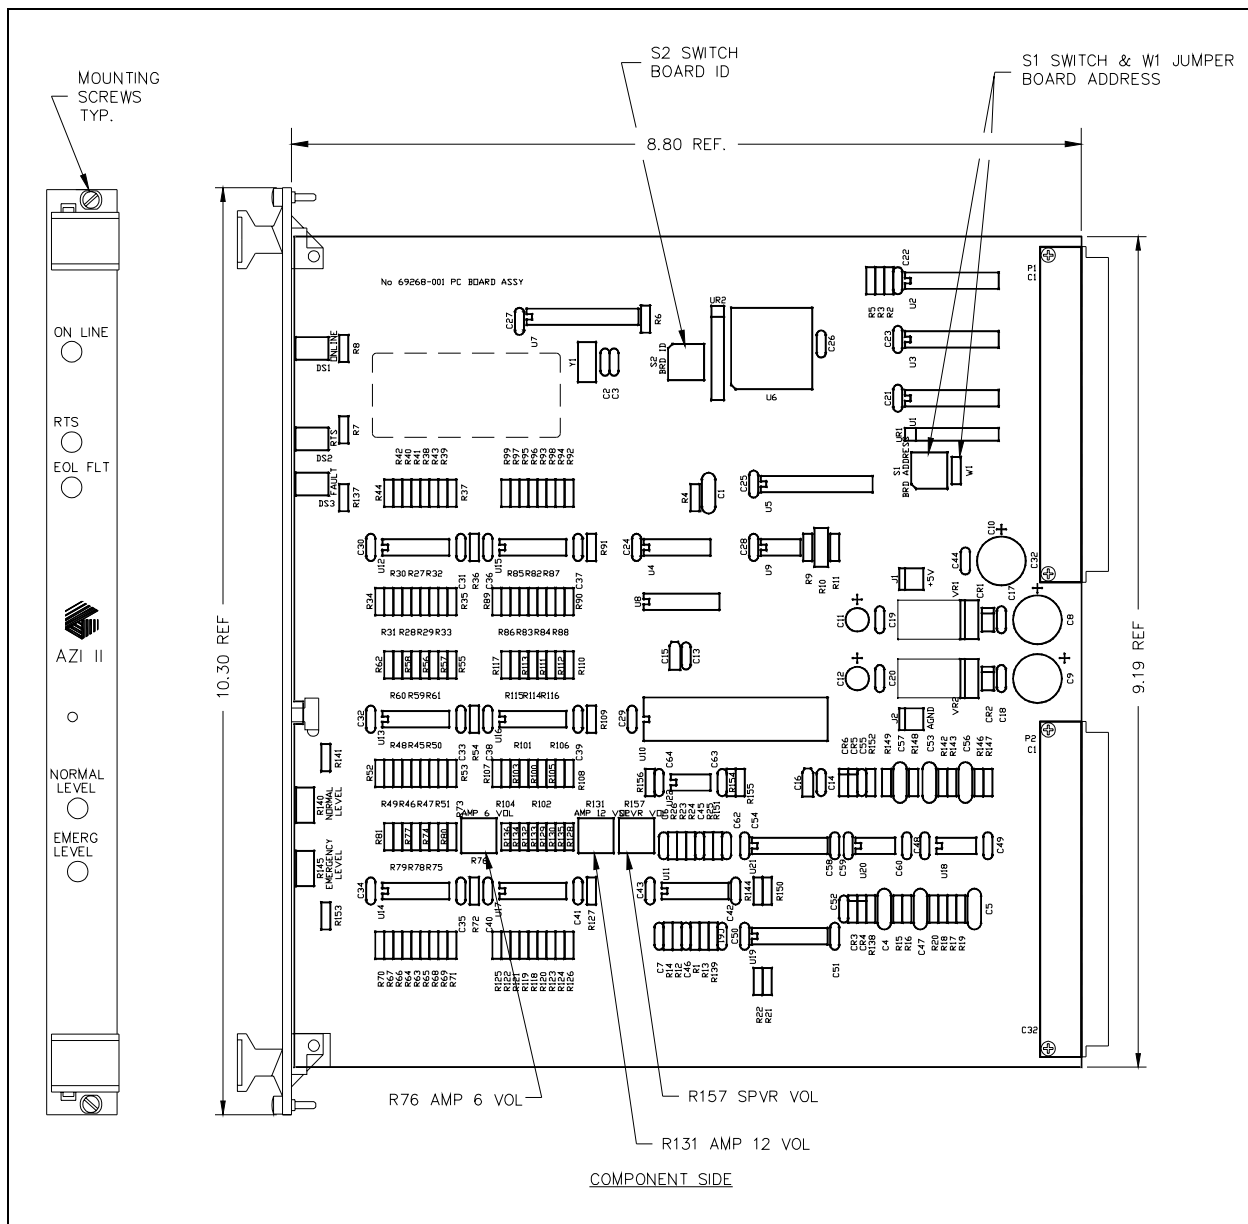

Figure 1. The Amplifier Zone Interface II PCBA - 69268-001
- The first digit must always be either a 2 or a 3. This corresponds to whether W1 is installed (2), or is removed (3).
7. Secure the board to the card rack assembly by tightening the two screws located on the front bezel. (See Figure 1.)